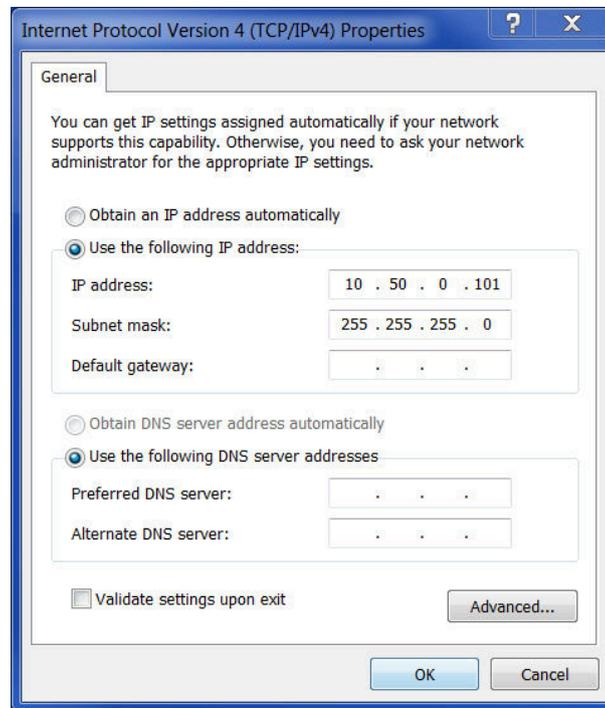

Figure 15: IP address
- To specify the IP address (customer), enter the IP address information in the IP address and Subnet mask (255.255.255.0) fields (see Figure 15).